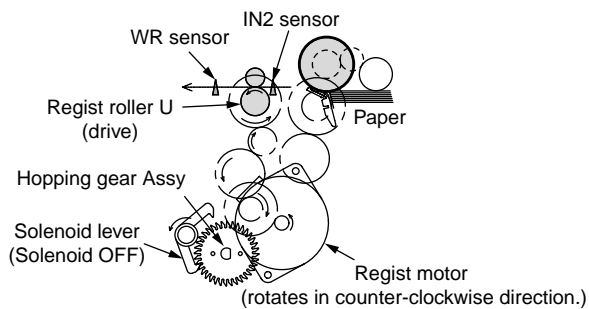

Fig. 2-4
3. The regist motor rotates (in counter-clockwise direction) as shown in Fig. 2-4, the paper is transported by the regist roller U. (When the regist motor rotates in counter-clockwise direction, the regist roller U is activated)